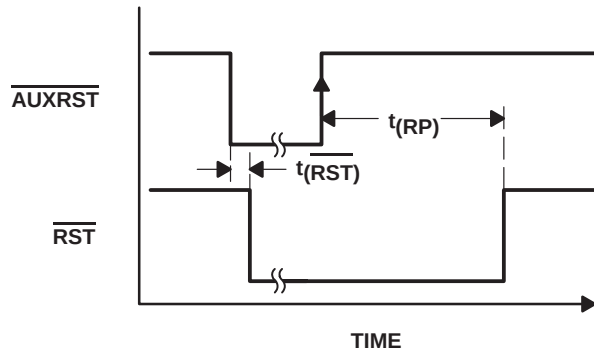

Figure 19. $\overline{\text{AUXRST}}$ to $\overline{\text{RST}}$ Timing
Asserting the $\overline{\text{AUXRST}}$ output causes the $\overline{\text{RST}}$ output to also be asserted regardless of the voltage level on the VCC3 terminal. This insures that the auxiliary reset output ($\overline{\text{AUXRST}}$) is negated before the $\overline{\text{RST}}$ output is negated. Once $\overline{\text{AUXRST}}$ is negated, the $\overline{\text{RST}}$ output continues to remain asserted for 180 ms (typical) (see Figure 19).
- Figure 19 shows $\overline{\text{RST}}$ output behavior whenever an $\overline{\text{AUXRST}}$ is generated or is asserted manually.